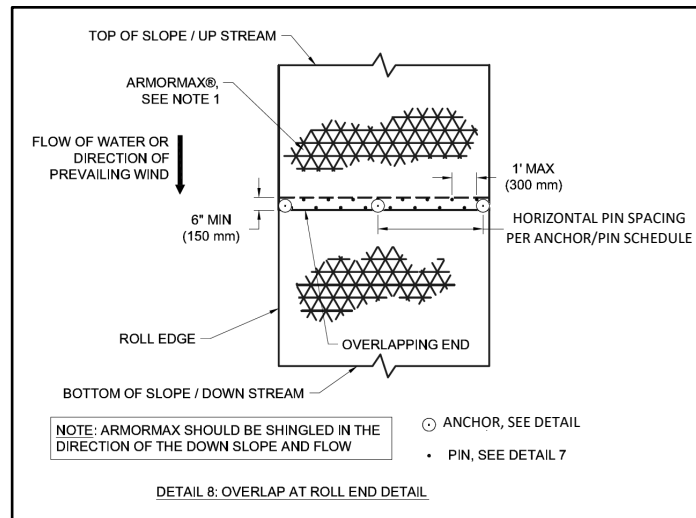

Figure 9: Roll End Overlap
- Roll ends shall be overlapped a minimum of 6 in (150 mm) with upstream / upwind panel on top. Secure roll end overlaps with two rows of pins staggered 6 in (150 mm) apart on 12 in (300 mm) centers and with one row of anchors on intervals based on the slope stability analysis (Figure 9)